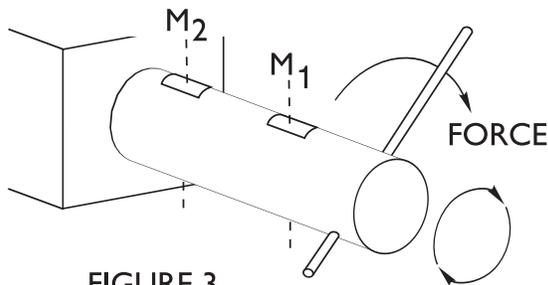

FIGURE 3
- 2) The Weigh Bar is insensitive to torsion loads (See Figure 3)